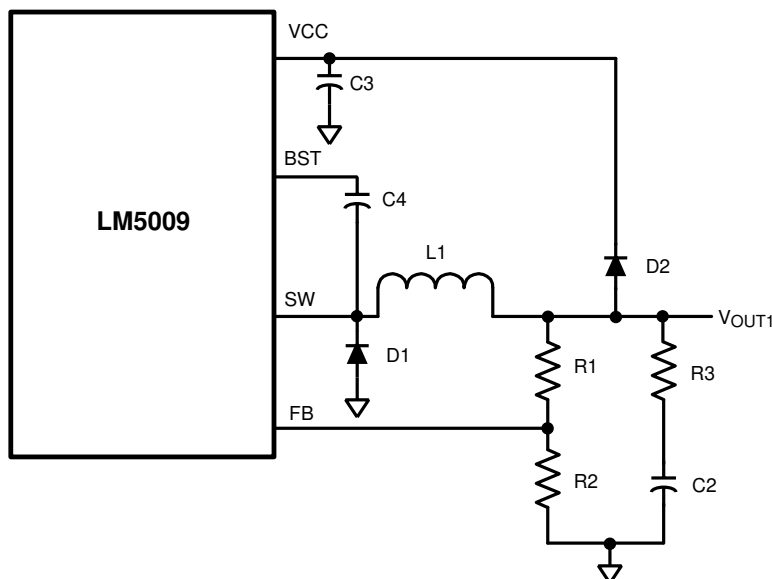

图 7-2. Self-Biased Configuration
In applications involving a high value for  $V_{IN}$ , where power dissipation in the  $V_{CC}$  regulator is a concern, an auxiliary voltage can be diode connected to the VCC pin. Setting the voltage between 8 V and 14 V shuts off the internal regulator, reducing internal power dissipation, as shown in 图 7-2. The current required into the VCC pin is illustrated in the 节 6.6 section.
1. **ESR and R3:** A low ESR for C2 is generally desirable to minimize power losses and heating within the capacitor. However, this regulator requires a minimum amount of ripple voltage at the feedback input for proper loop operation. For the LM5009, the minimum ripple required at pin 5 is 25 mV peak-to-peak, requiring a minimum ripple at  $V_{OUT1}$  of 100 mV. The minimum ESR required at  $V_{OUT1}$  is  $3\ \Omega$  because the minimum ripple current (at minimum  $V_{IN}$ ) is 33 mA peak-to-peak. R3 is inserted as illustrated in the Figure 7.2 section because quality capacitors for SMPS applications have considerably less ESR. The value of R3, along with the ESR of C2, must result in at least a 25-mV peak-to-peak ripple at pin 5. Generally, R3 is  $0.5\ \Omega$  to  $5.0\ \Omega$ .